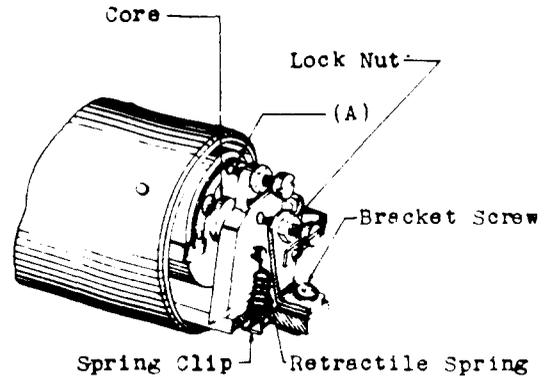

Fig. 5
2.11 Feather Contact Spring Position - Fig. 5 (A) - The feather contact spring shall rest against the turned over portion of the front contact spring when it is not engaged by the front contact screw. Gauge by eye.